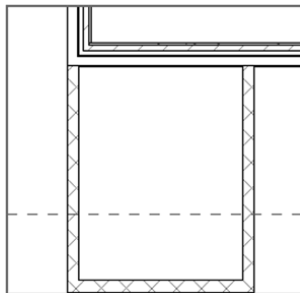

FIGURE 2.22: The elevator shaft begins to take shape.
8. Click Modify. You should have three walls that look like Figure 2.22.